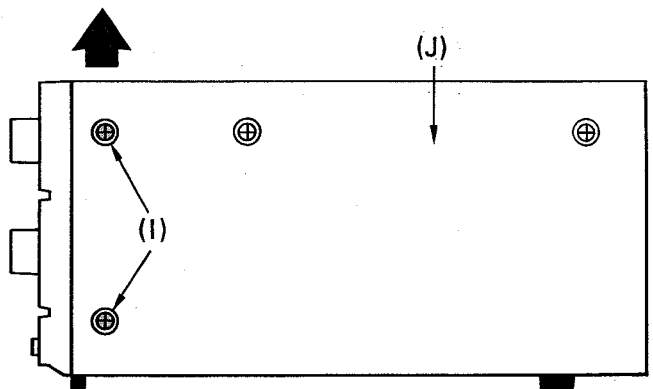

Fig. 4
4. Remove the screw (I) fastening the right side of Cabinet (J).
5. Lift the front panel side of Cabinet in the direction of the arrow and pull it backward. Then, Cabinet will be separated from Chassis. (Fig. 4)